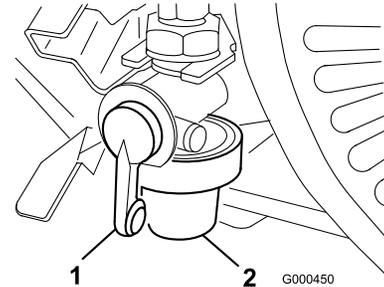

Figure 32
1. Close fuel shut off valve and unscrew bowl from filter body (Figure 32).